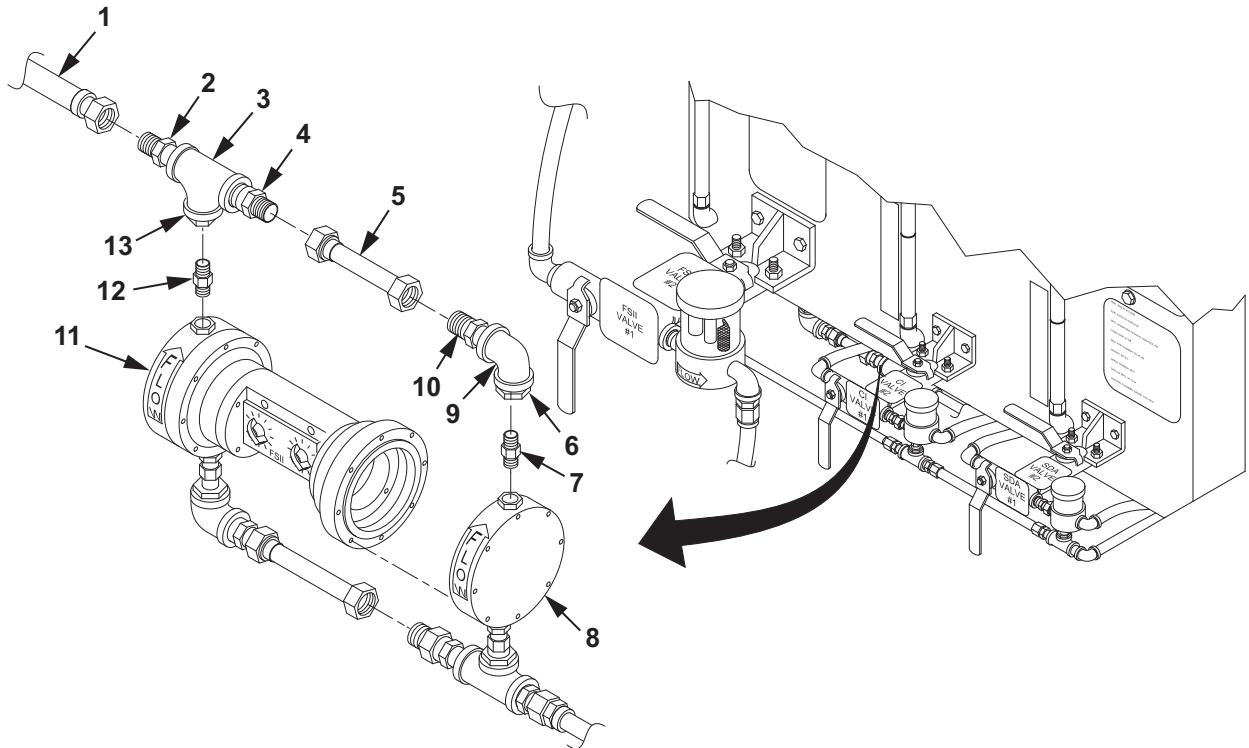

Figure 2. FSII Pump Discharge Check Valves Installation.
1. Apply teflon tape to the threads of discharge check valve (Figure 2, Item 7).
2. Install discharge check valve (Figure 2, Item 7) on reducer bushing (Figure 2, Item 6). Tighten discharge check valve (Figure 2, Item 7).
3. Install discharge check valve (Figure 2, Item 7) on reducer bushing (Figure 2, Item 6), 90° elbow (Figure 2, Item 9) and tube adapter (Figure 2, Item 10) as an assembly on end cap assembly (Figure 2, Item 8). Tighten discharge check valve (Figure 2, Item 7).
4. Apply teflon tape to the threads of discharge check valve (Figure 2, Item 7).
5. Install discharge check valve (Figure 2, Item 12) on reducer bushing (Figure 2, Item 13). Tighten discharge check valve (Figure 2, Item 12).
6. Install discharge check valve (Figure 2, Item 12), reducer bushing (Figure 2, Item 13), tee assembly (Figure 2, Item 3) and tube adapters (Figure 2, Item 2, 4) as an assembly on FSII pump (Figure 2, Item 11). Tighten discharge check valve (Figure 2, Item 12).
7. Connect tee assembly (Figure 2, Item 3) on tube adapter (Figure 2, Item 4). Tighten tube assembly (Figure 2, Item 3).
8. Connect tube assembly (Figure 2, Item 1) on tube adapter (Figure 2, Item 2). Tighten tube assembly (Figure 2, Item 1).